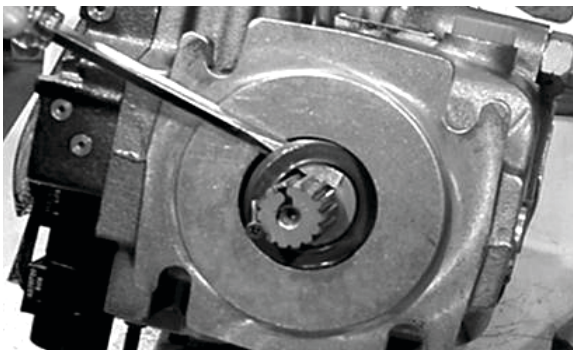

Figure 6. Carefully pry out seal
- iii. Carefully insert the blade of a flat screw driver behind the seal. Pry the seal out, taking care not to damage the shaft (Figure 6).